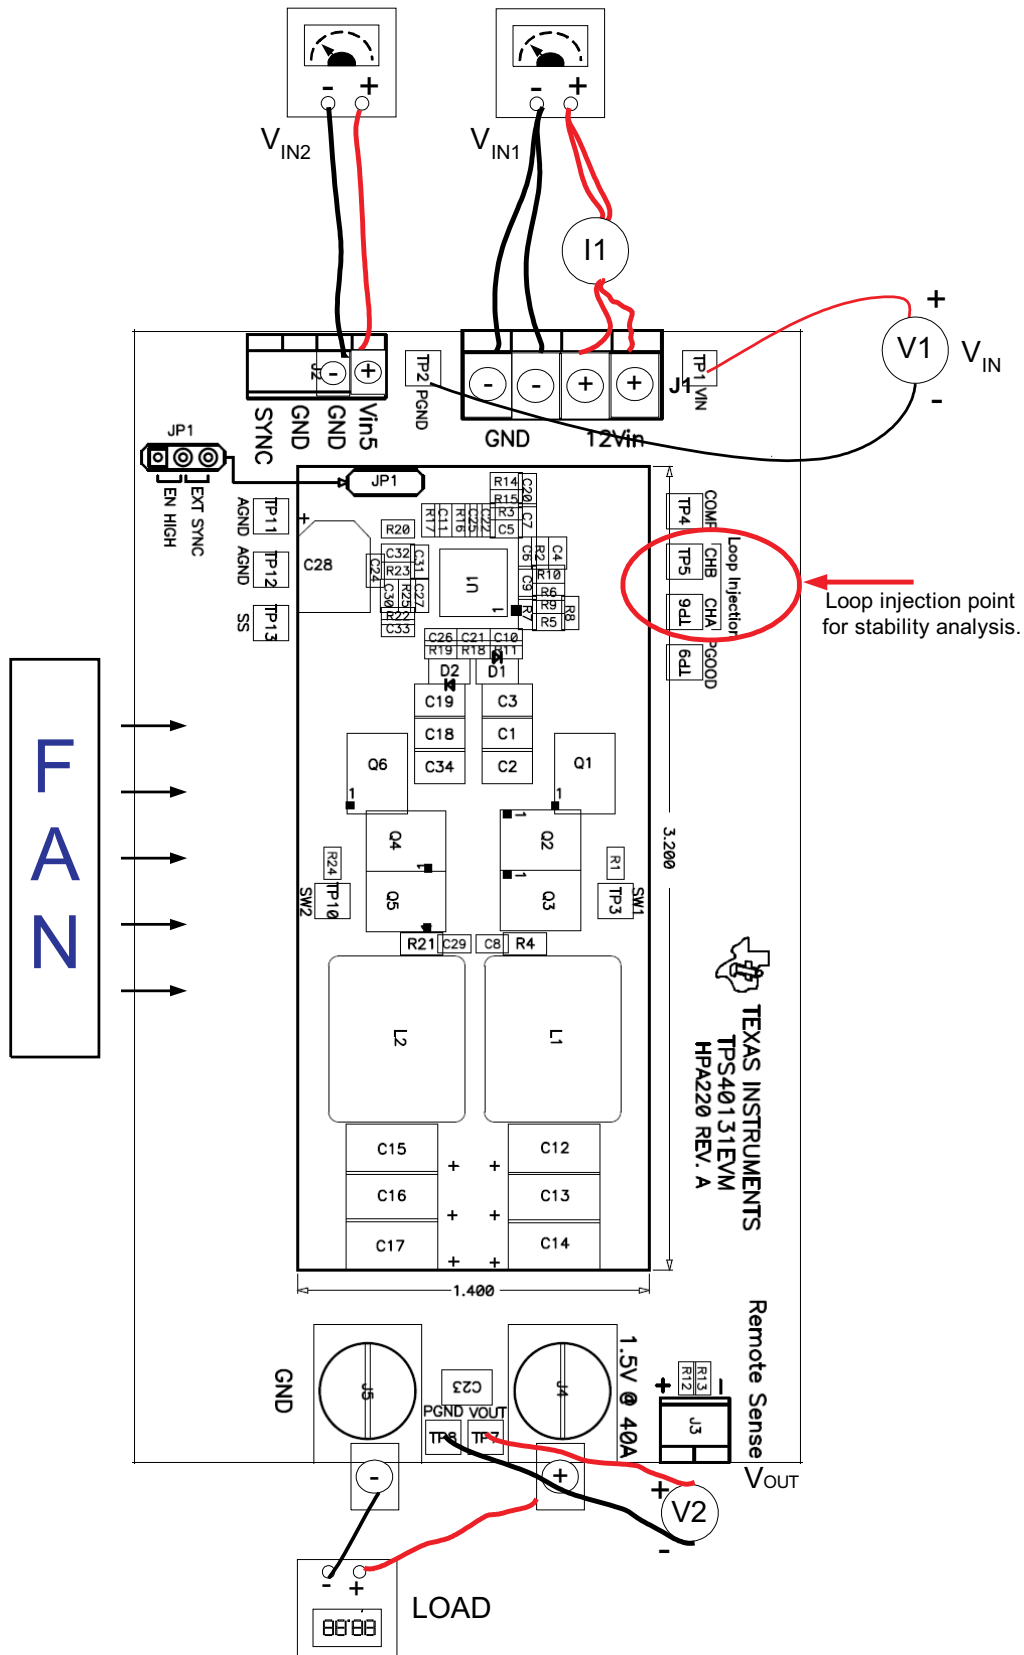

Figure 2. TPS40131EVM Recommended Test Set-Up
The input voltage source V_{IN1} should be a 0–15 V variable DC source capable of 10 A. Connect V_{IN1} to J1 as shown in Figure 2.
The input voltage source V_{IN2} should be a 0–6 V variable DC source capable of 2 A. Connect V_{IN2} to J2 as shown in Figure 2.
Shown in Figure 2 is the basic test set up recommended to evaluate the TPS40131EVM.
1. Prior to connecting the DC input source, V_{IN1} , it is advisable to limit the source current from V_{IN1} to 10A maximum. Make sure V_{IN1} is initially set to 0V and connected as shown in Figure 2.
2. Connect voltmeter, V2, across TP7 and TP8, as shown in Figure 2.
1. Place Fan as shown in Figure 2 and turn on, making sure air is flowing across the EVM.